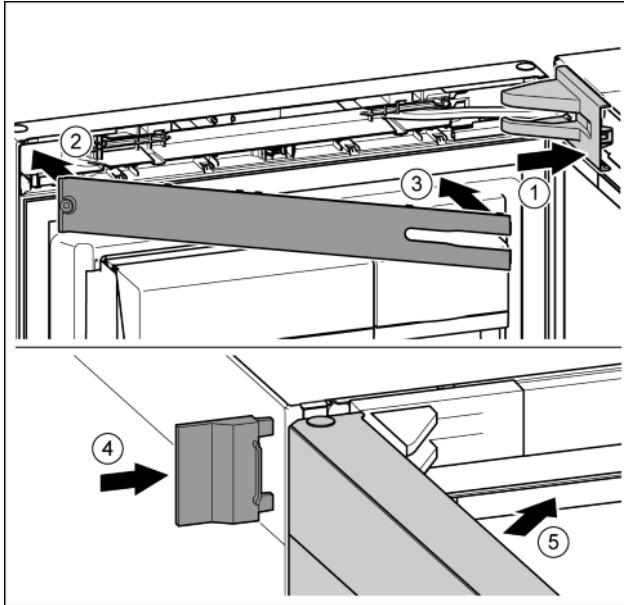

Fig. 23
- ▶ Position the bearing bracket and engage. If necessary push apart carefully. Fig. 23 (1)
- ▶ Position the panel. Fig. 23 (2)
- ▶ Swing in the panel and click into place. Fig. 23 (3)
- ▶ Slide on the external cover. Fig. 23 (4)
- ▶ Close the upper door. Fig. 23 (5)